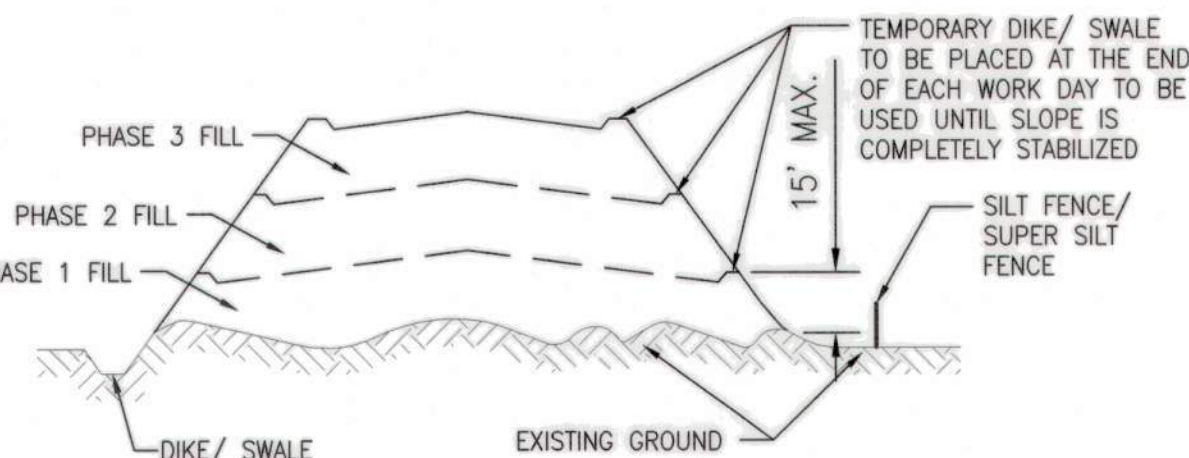

Figure B.2: Incremental Stabilization – Fill
- Construction sequence example (Refer to Figure B.2):